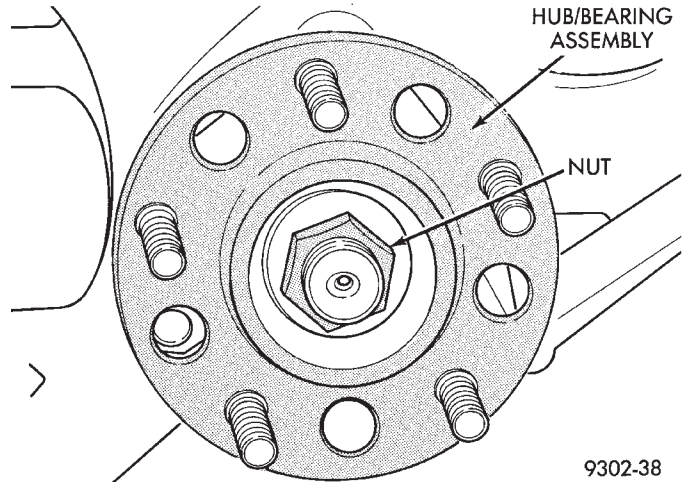

Fig. 5 Hub And Bearing To Stub Axle Retaining Nut
(6) Remove the hub and bearing to stub axle retaining nut (Fig. 5).